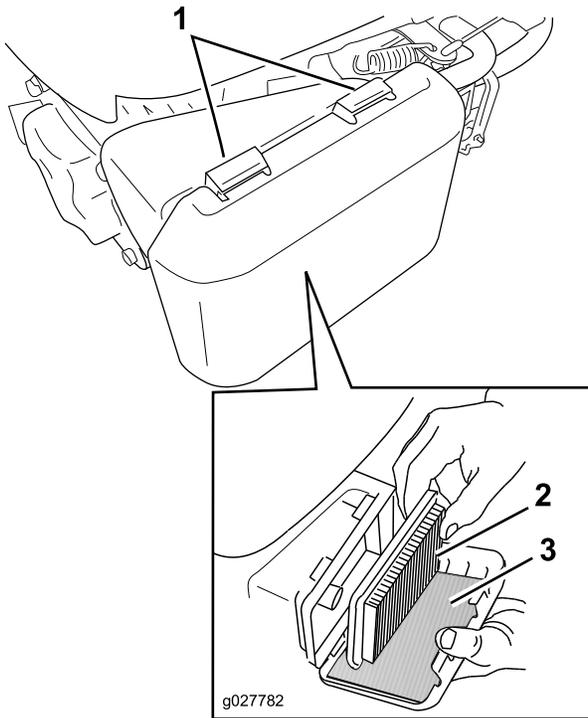

Figure 27
1. Press down on the latch tabs on top of the air cleaner cover (Figure 27).
3. Remove the paper air filter and the foam pre-filter (Figure 27).